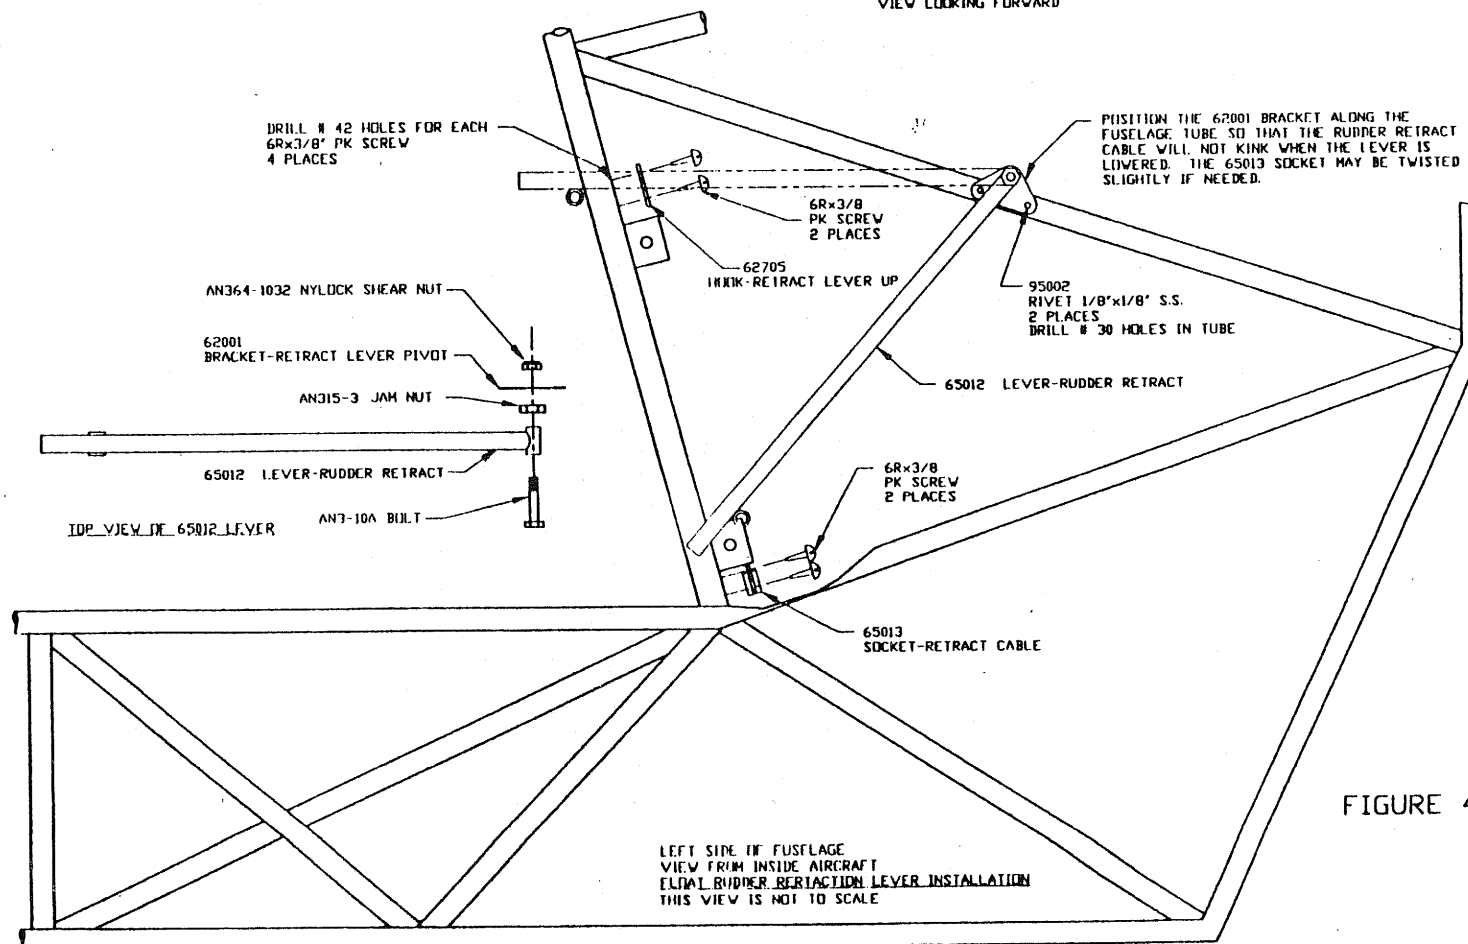

FIGURE 4
STEP (31): Rivet the water rudder cable sockets to the landing gear bulkhead, #65014 in the upper left corner and #65015 in the upper right corner as shown in the diagram Fig. 4.